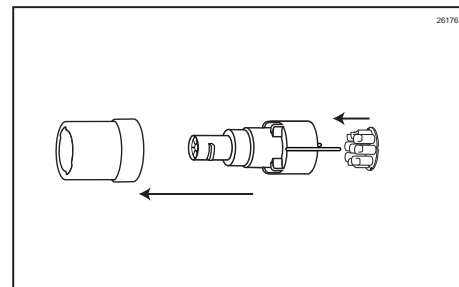

Figure 76
28. Install the Duckbill Check Valve into the Syrup Line Manifold and the Syrup Line Manifold into the Coupler Body. (See Figure 76.)